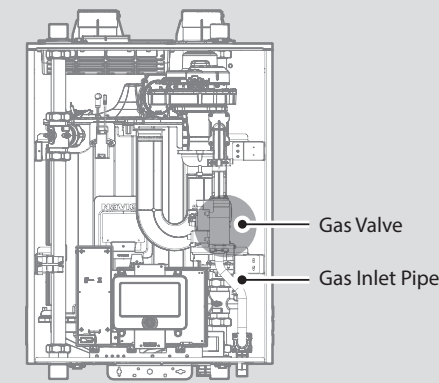

Figure 2. NFB Series Internal Components
4. With the internal components exposed, locate the gas inlet pipe and the gas valve, as shown in Figure 2.